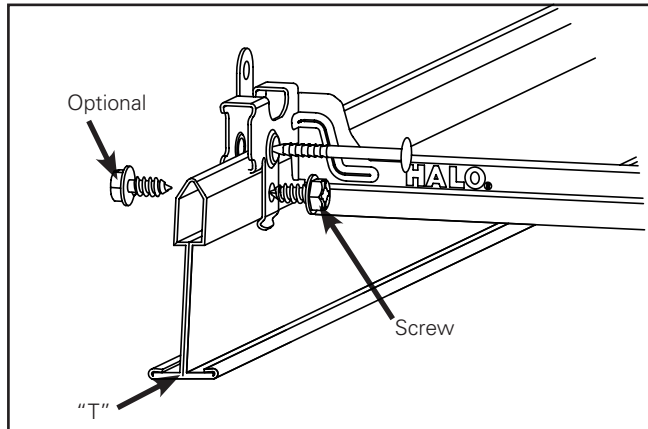

Figure 6.
3. Snap fixture on T-bars. Secure with screw (not included) as shown (Figure 6).